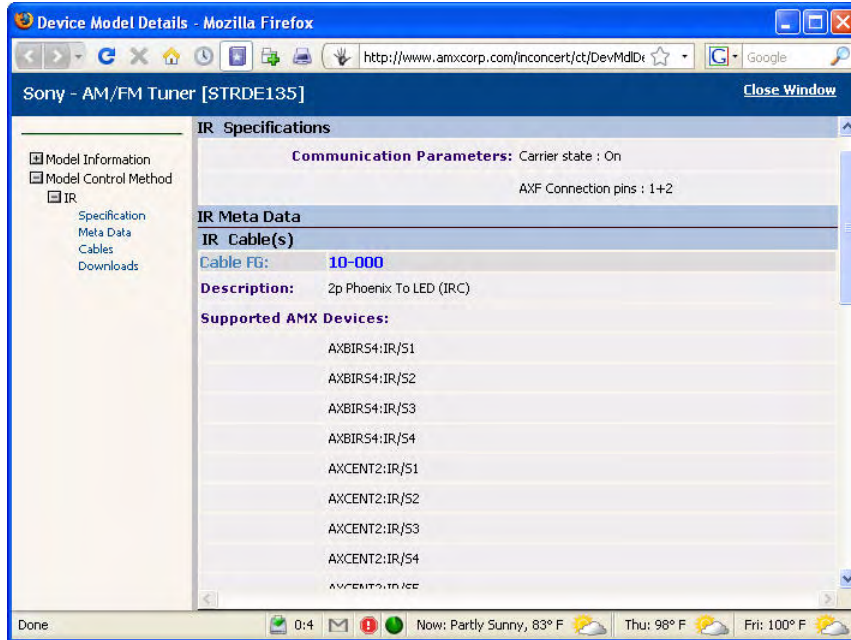

FIG. 48 Device Model Details dialog (IR Control Method)
- Click **IR** in the *Control Method* column of the search results list to access the *Device Model Details* dialog for the selected device (FIG. 48).